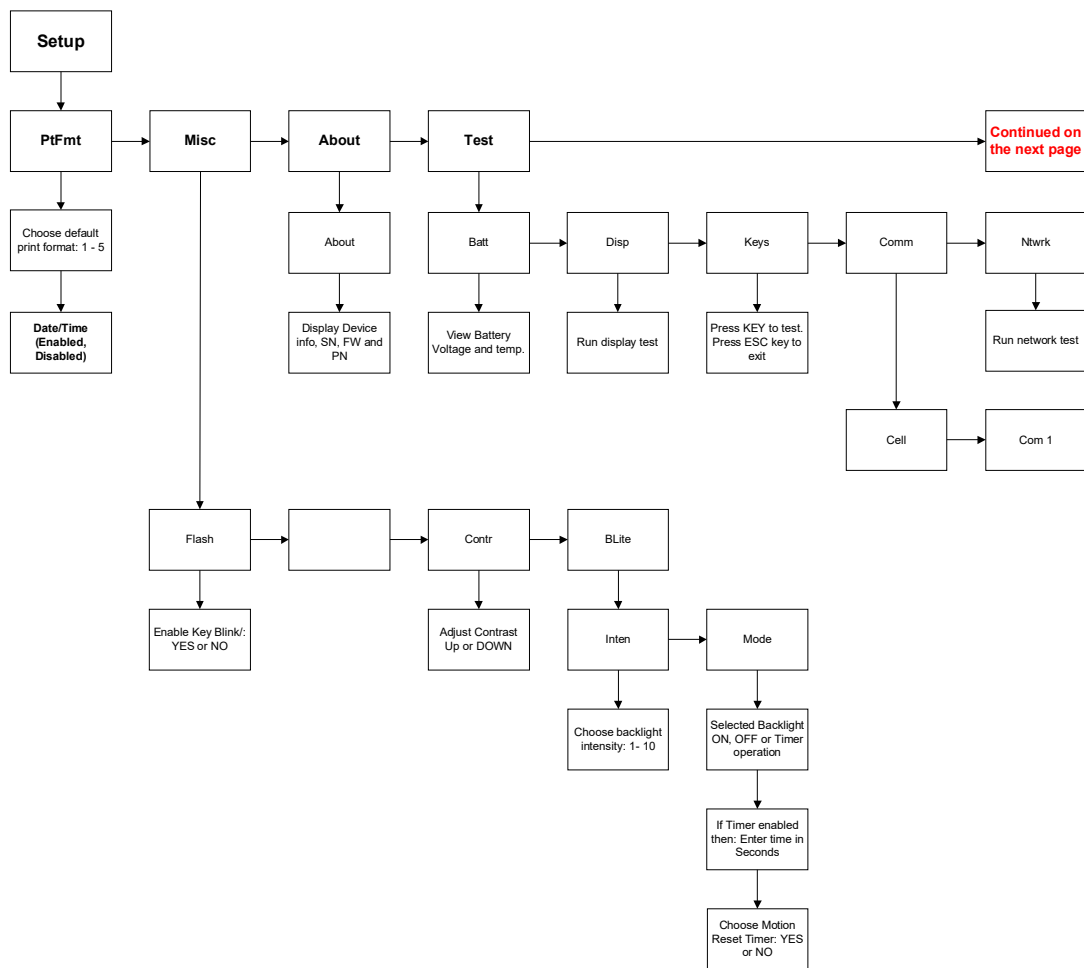

Figure 6.1 Communicator Setup Menu
- Setup** Accesses the Setup menu shown in Figure 6.1.